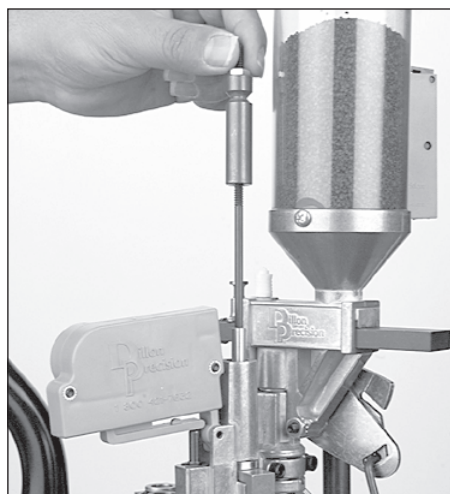

FIG 141
3. Insert the rod into the powdercheck die FIG 141.